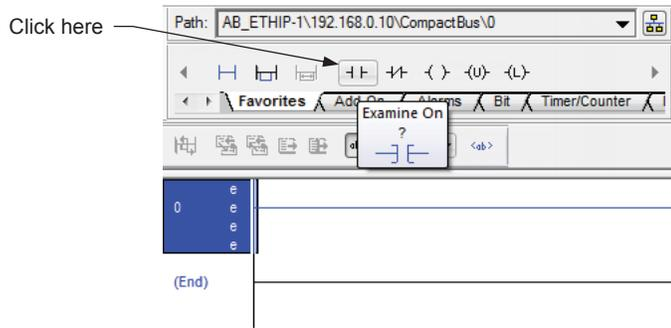

Figure 100. Adding an Examine On (XIC) instruction.
12. Let us start by having an indicator light turn on whenever the mechanical limit switch at the bottom of the clamp cylinder is actuated. To do so, you will need an Examine On (XIC) and an Output Energize (OTE) instruction. First, add the Examine On instruction by clicking the symbol while rung 0 is selected (Figure 100).